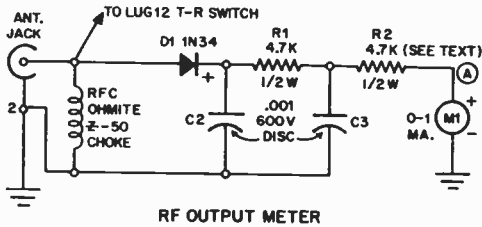
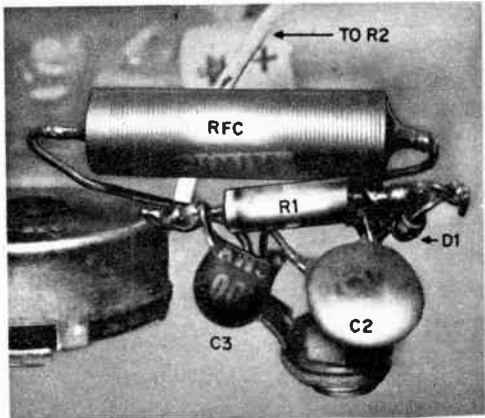

Fig. 3—RF-output-meter circuit is shown above. Be sure of the polarity of D1 before installing.
Fig. 8—RF-output-meter parts are located on rear chassis apron near regeneration control R106 (left). Don't apply excessive heat when soldering to D1.
• **RF Output Meter.** The plate current dip in the Sixer is difficult to determine. A much more accurate tune-up can be achieved by using a meter that reads RF voltage. Mount the meter on the front panel as shown in Fig. 1. The circuit is shown in Fig. 3 and the installation of the rectifier-filter network (already built in the HW-29A) is shown in Fig. 8.